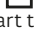

Fig. 2
- Replace the fuses and reinsert the fuse holder (Fig. 2). Check that the fuse holder locks properly into place.